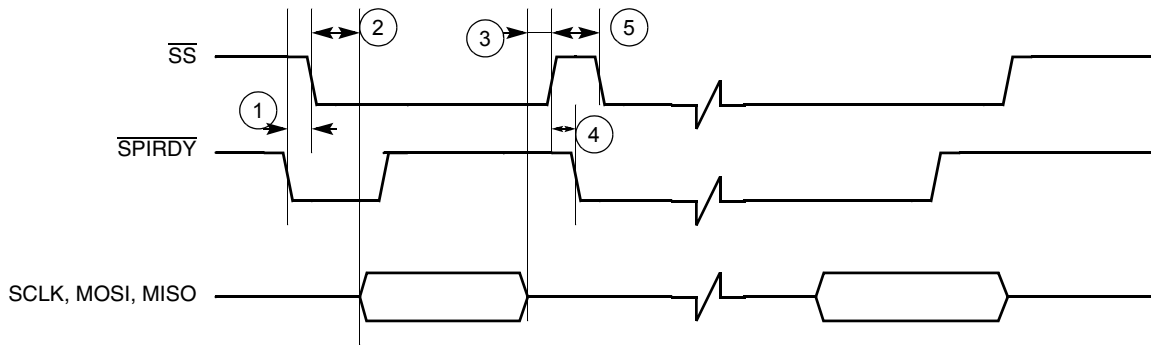
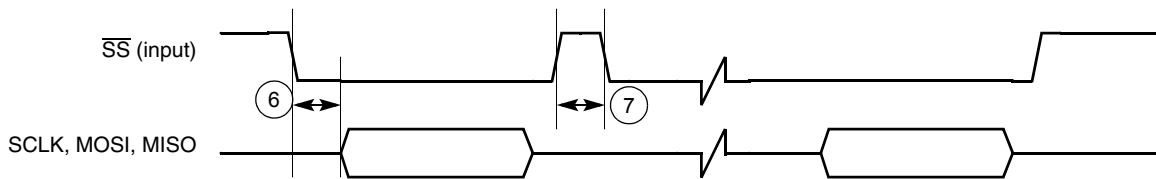

Figure 34. Master SPI Timing Diagram Using $\overline{\text{SPI_RDY}}$ Edge Trigger
Figure 38. Slave SPI Timing Diagram FIFO Advanced by $\overline{\text{SS}}$ Rising Edge
To use the internal transmit (TX) and receive (RX) data FIFOs when the SPI 1 module is configured as a master, two control signals are used for data transfer rate control: the \overline{SS} signal (output) and the $\overline{SPI_RDY}$ signal (input). The SPI1 Sample Period Control Register (PERIODREG1) and the SPI2 Sample Period Control Register (PERIODREG2) can also be programmed to a fixed data transfer rate for either SPI 1 or SPI 2. When the SPI 1 module is configured as a slave, the user can configure the SPI1 Control Register (CONTROLREG1) to match the external SPI master’s timing. In this configuration, \overline{SS} becomes an input signal, and is used to latch data into or load data out to the internal data shift registers, as well as to increment the data FIFO. Figure 34 through Figure 38 show the timing relationship of the master SPI using different triggering mechanisms.
Table 18. Timing Parameter Table for Figure 34 through Figure 38